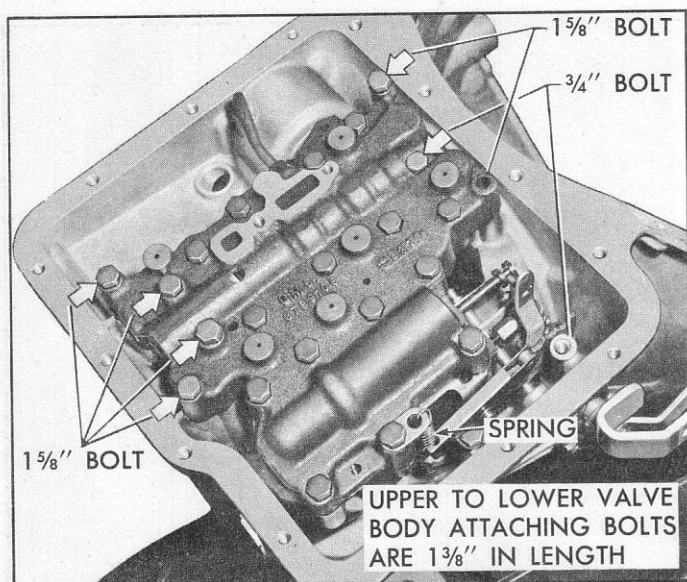

Fig. 18—Valve Body Removal
25. Remove the remaining valve body-to-transmission case attaching bolts (indicated by arrows in Figure 18) and carefully lift out the valve body and gasket, disengaging the servo apply tube from the transmission case as the valve body is removed.